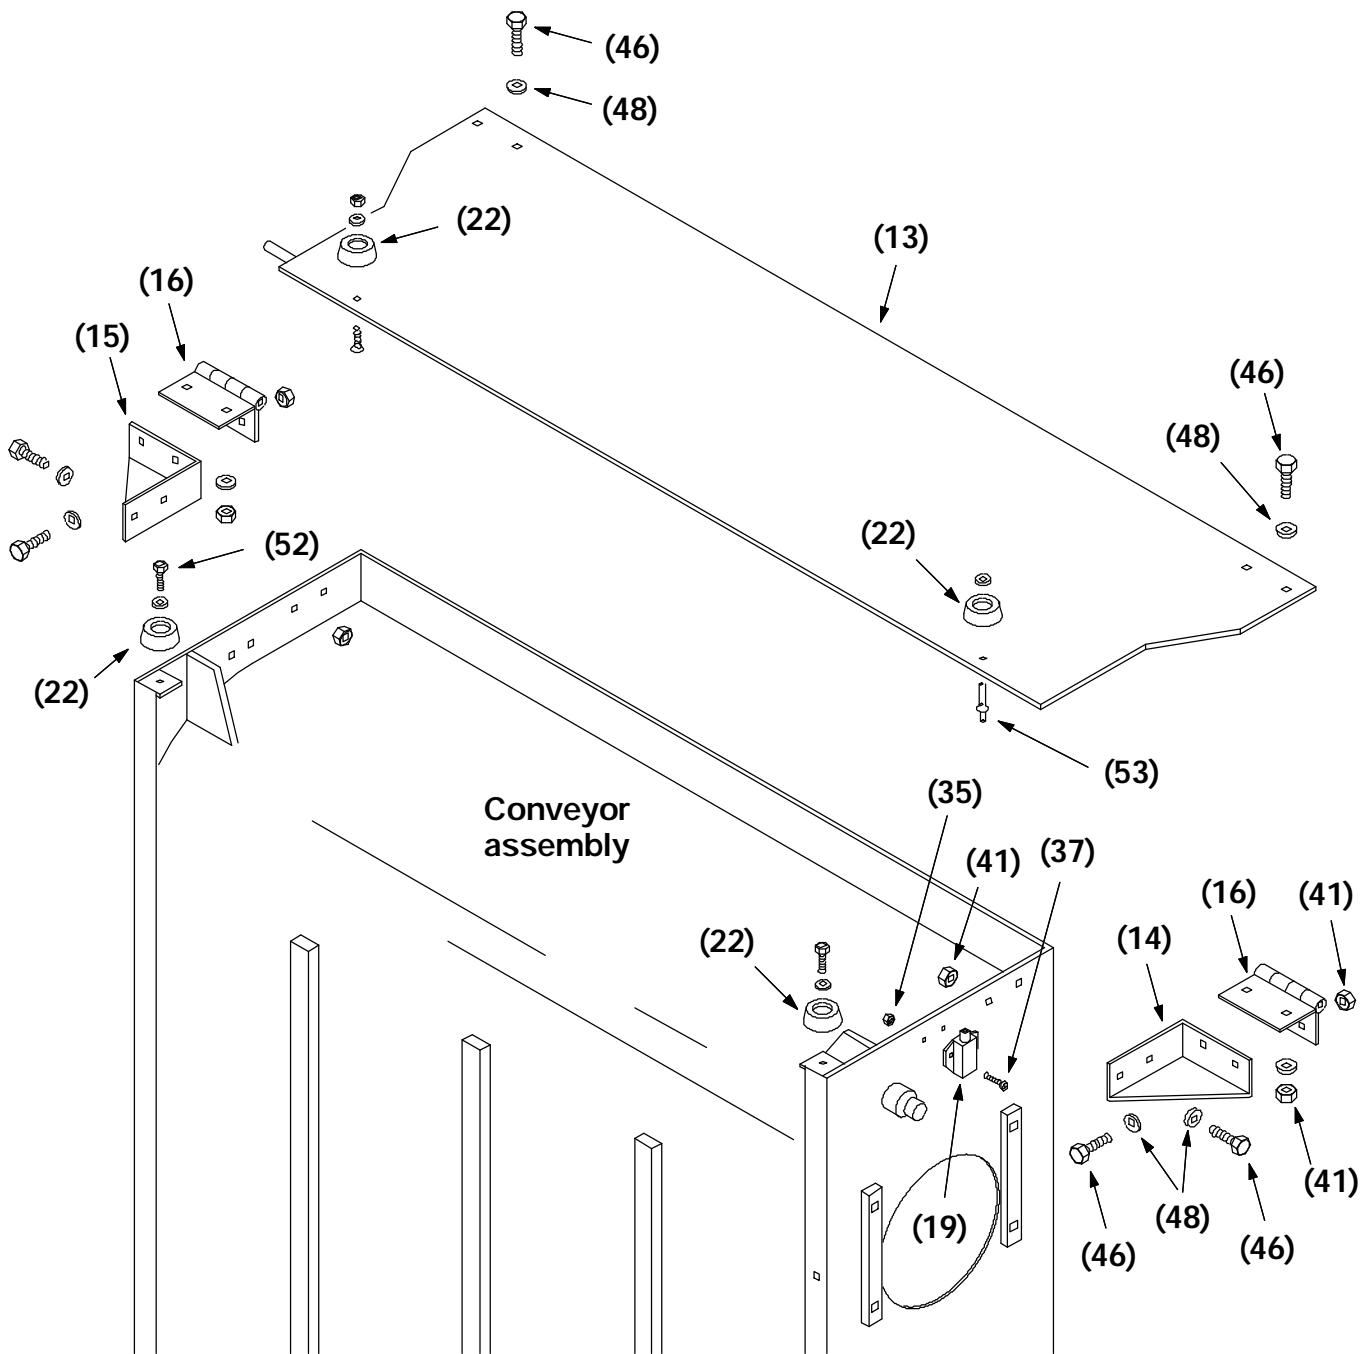

FIG. 1 - Conveyor Door Assembly
(Refer to FIG. 1 and 2)
1. While standing on the machine frame, install the RH (15) and LH (14) hinge mounting brackets to the top, front edge of the conveyor assembly. Use four M8 hex screws (46), flat washers (48), and nyloc nuts (41). Leave loose for now. (Refer to Fig. 1)
2. Mount one hinge (16) to front of each bracket using four M8 hex screws (46), flat washers (48), and nyloc nuts (41). Leave loose for now. (Refer to Fig. 1)
3. Mount the conveyor door (13) on the hinges (16) using four M8 hex screws, flat washers, and nyloc nuts. Leave loose for now. (Refer to Fig. 1)
4. Line the edge of the conveyor door with the front edge of the conveyor assembly. Tighten the hardware to 18 - 24 Nm (15 - 20 ft lb). (Refer to Fig. 1)
5. Install the four recessed rubber bumpers (22) on the conveyor door (13) using two rivets (46) and on the conveyor assembly using two taptites (52). (Refer to Fig. 1)
6. Install the micro switch (19) to the right side of the conveyor assembly. Hand tighten the two M4 screws (37), nyloc nuts (35), and int. lock washers (49). (Refer to Fig. 1)